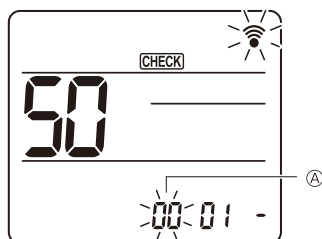

Fig. 2
Press the **DOWN** button to set unit number ①. (Fig. 2)